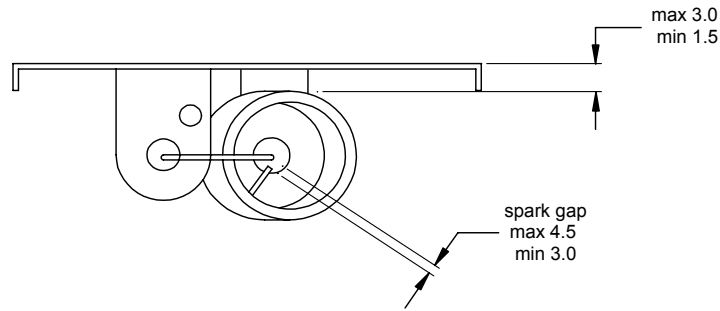

Figure 4 Spark Electrode Settings
- (c) **Ignition System (spark gap):** Remove burner assembly as described above; the spark gap may be adjusted by bending the electrode into the desired position - the electrode is factory set to ignite at the top right hand edge of the flame via the ignition pin (the best spark position for the flame establishment has been found to be the position shown in Figure 4, (it is strongly recommended that this location be used); replace burner assembly and re-test the spark.